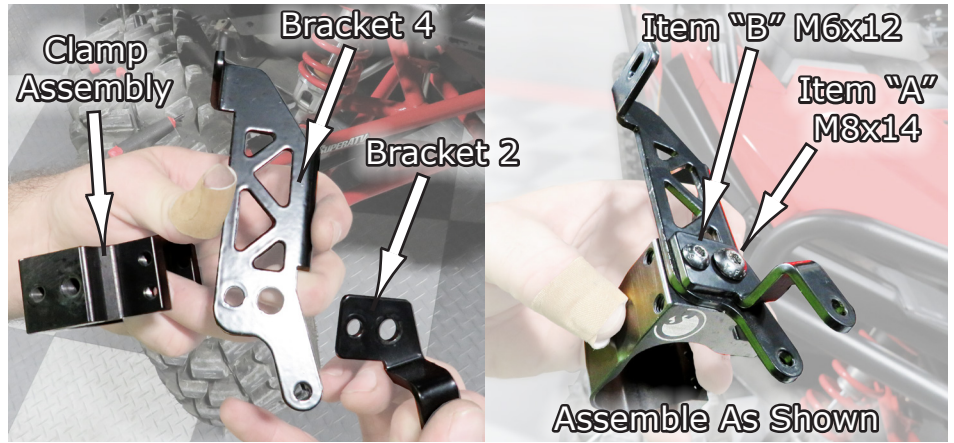

Fig.1
1. First, you need to assemble a couple front mounting brackets. we will do the upper brackets first. For these you will use one of the **Clamp Assemblies**, (1) **Bracket 4** and (1) **Bracket 2**. Then assemble them using (1) M5x12, **Item "B"** and (1) M8x14 **Item "A"** as shown in **Fig.1**.